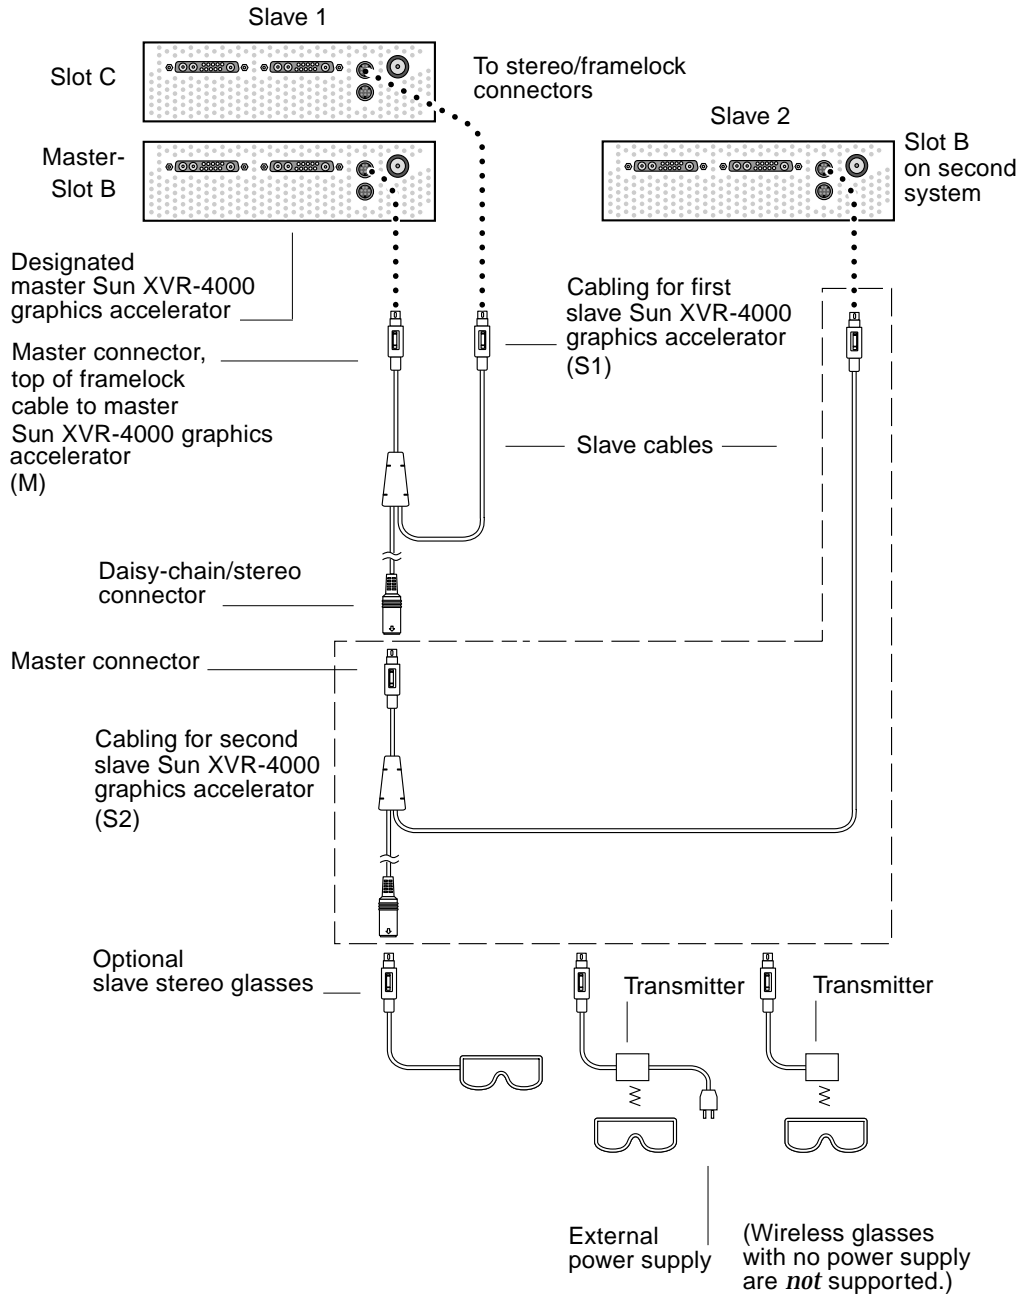

FIGURE 7-2 Sun XVR-4000 Graphics Accelerator and Frameclock Cable
2. **Connect the framelock cable master connector to the stereo/framelock DIN7 connector (FIGURE 7-2).**
- a. Connect an additional framelock cable master connector to the framelock cable daisy-chain/stereo connector (FIGURE 7-2).
Note – While the Sun XVR-4000 graphics accelerator supports both tethered and wireless stereo glasses, wireless stereo glasses *without* an external power supply are *not* supported. Connect the transmitter DIN7 connector to the framelock cable daisy-chain/stereo connector (FIGURE 7-2).
FIGURE 7-2 shows the master Sun XVR-4000 graphics accelerator in slot B of the Sun Fire V880z server. The first slave Sun XVR-4000 graphics accelerator is in slot C. The second slave is in Slot B of another Sun Fire V880z server